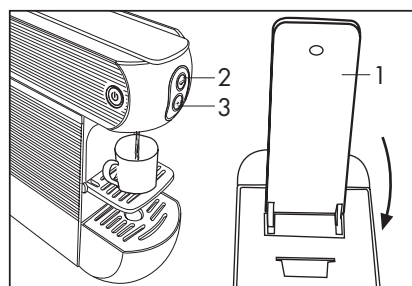

Fig. 10
- Completely close the lever (1), press the dispensing button (2) and press it again to stop dispensing when the desired quantity of beverage is reached (Fig. 10). In case of difficulty in closing the lever, completely open it and close it again.
- During dispensing the dispensing button (2) blinks and stops when dispensing is ended.
- To prepare a long coffee (American style) press the dispensing button (2) and, after having prepared the espresso coffee and ejected the empty capsule, dispense the desired amount of hot water.
- To extract the capsule, slowly lift the lever (1).